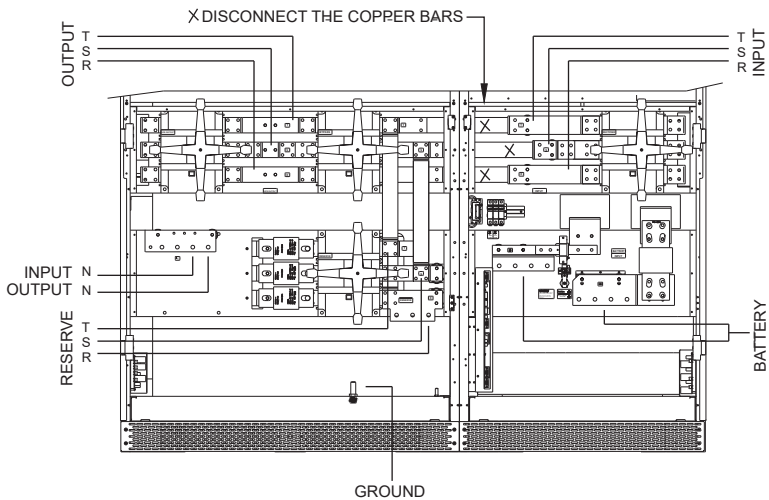

Figure 4-43
- (2) Dual input: disconnect the copper bars (shown in **Figure 4-43**) between the main input terminals and reserve input terminals.